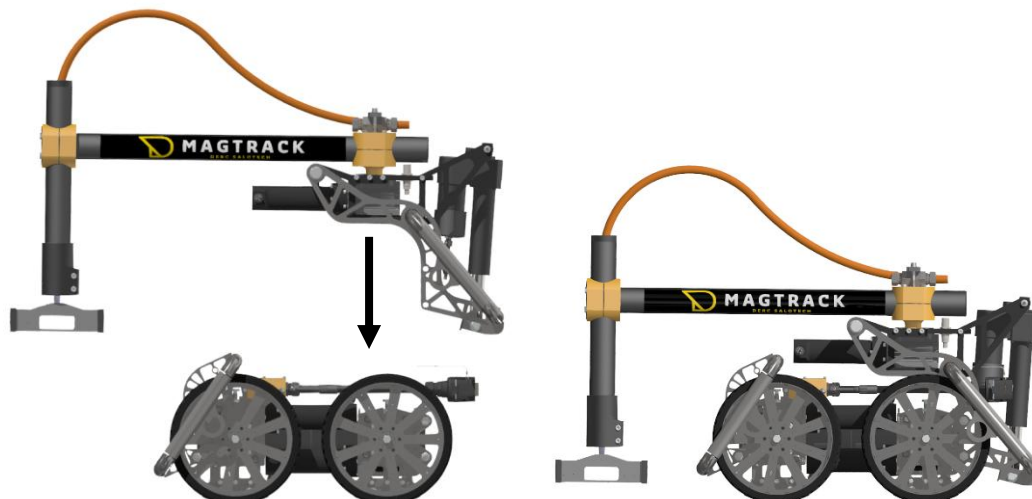

Figure 18 Swing arm installation on carrier
2. Place the swing arm brackets on the rear frame of the carrier as shown in Figure 18